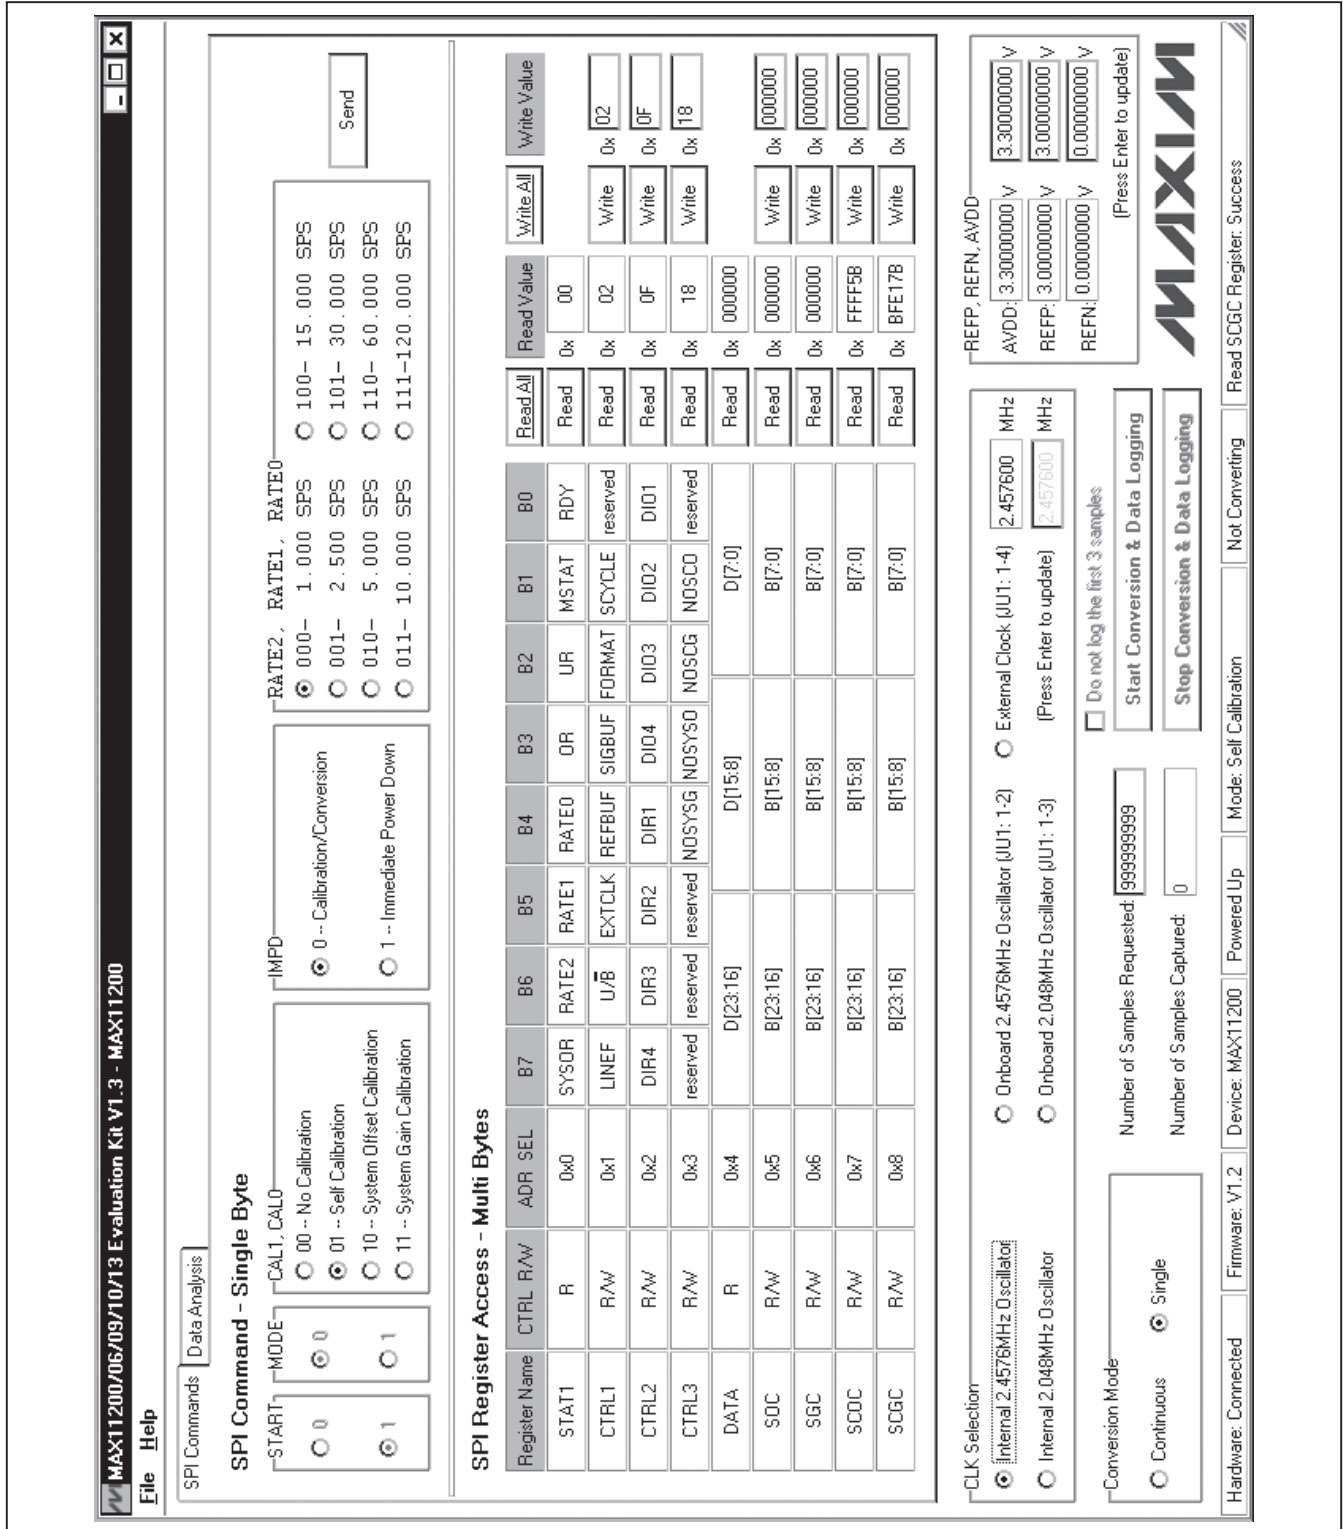

Figure 2. MAX11200/MAX11206/MAX11209/MAX11210/MAX11213 EV Kit Software (Main Window)
- 10) The EV kit software main window appears (Figure 2). Verify that **Hardware: Connected** is displayed on the status bar at the bottom of the main window.